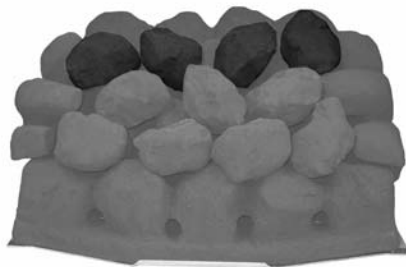

Fig. 19
7. Lay another row of four coals on the next row up, again making sure all the gaps are even (Fig. 19).